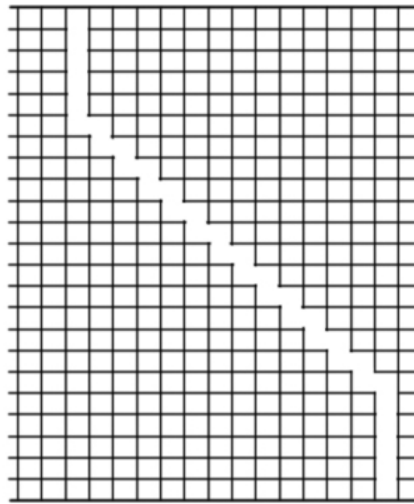

Figure 2 Step-wise approximation
- 2) The step-wise approximation (shown in Figure. 2) is suggested to deal with the inclined wall. As the thermal conductivity of steel is large enough, only one cell for the wall is needed.